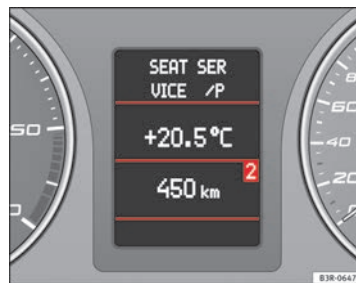

Fig. 65 Driver information system
- Press the [MODE] button (B) repeatedly to switch between modes, which are then displayed in the driver information system ⇒ Fig. 65.
- Scroll and press the left thumbwheel (A) to select a function from one of the menus.
- The speech control system* for the on-board phone system is enabled by pressing the talk button (C). Pressing the talk button again disables speed control*.
- Scroll the right thumbwheel (D) up/down to increase/decrease the volume.